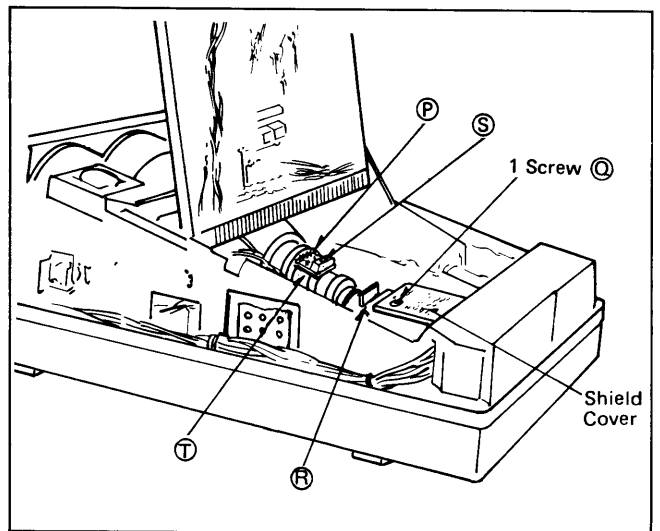

Fig. 14
- 4) Remove the anode lead (P) from the high voltage distributor as shown in Fig. 14.
- 5) Remove 1 screw (Q), and remove the shield cover as shown in Fig. 14.
- 7) Remove the screw for VM coil and remove the VM coil (R) as shown in Fig. 14.
- 8) Remove the screw from the deflection coil (S) and draw out the deflection coil (T) as shown in Fig. 14.